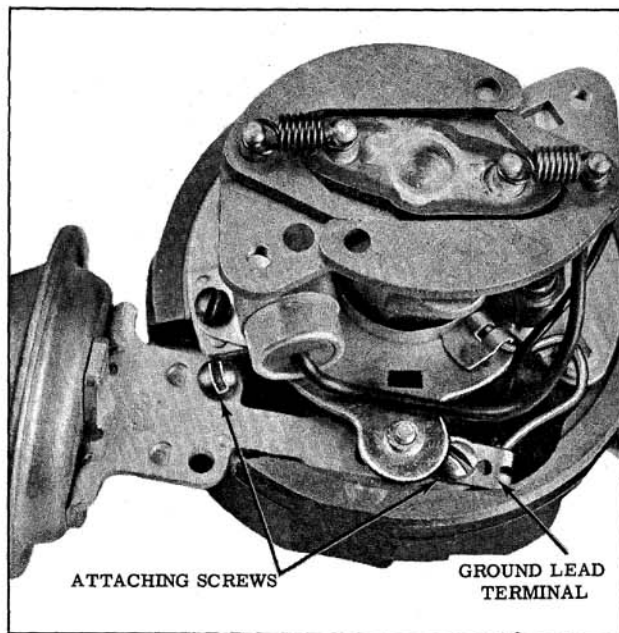

Fig. 13-69 Vacuum Advance Unit
1. Remove the two vacuum advance attaching screws. (Fig. 13-69)
4. Install the attaching screws with the ground lead terminal under the inner mounting screw. (Fig. 13-69)